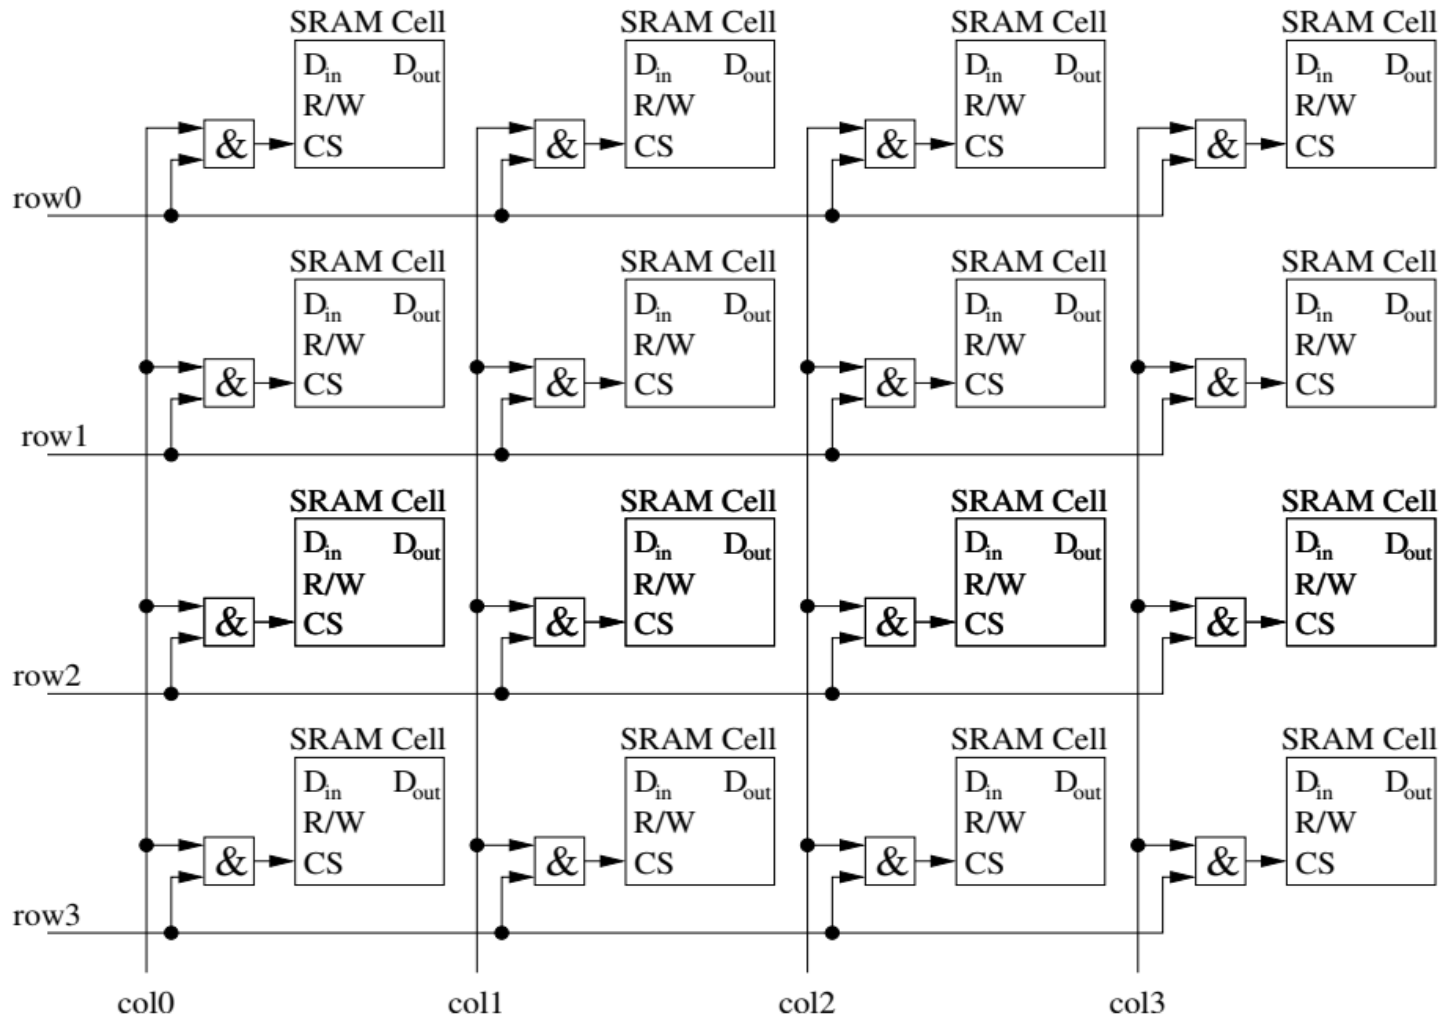

Fig. 3.3 A matrix of memory in an SRAM
- To get a useful memory, many such cells are arranged in a matrix as depicted in Figure 3.3.